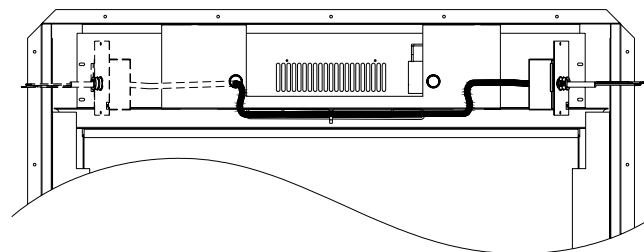

Figure 8 - Rerouting Harness to Left Side
6. Swing the junction box with harness to the left side while pulling sufficient length of harness out through the control panel cover to reach the mounting location on the left side (see **Figure 8**).